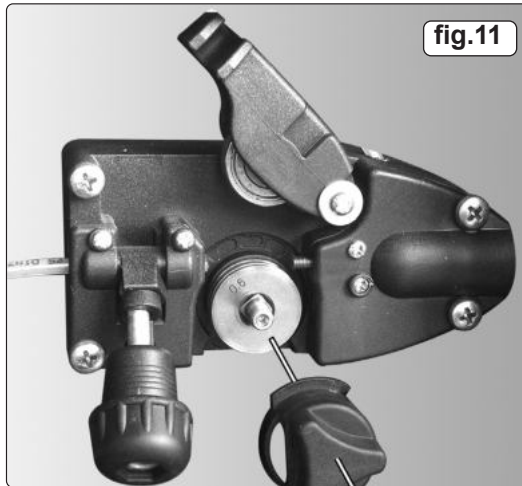

fig.11
- 6.5.1. There are two grooves on the feed roller, 0.6mm and 0.8mm. Always have the groove that is being used on the outside of the roller (nearest to you). To turn the feed roller first loosen the wire tension knob and move it into its down position (see fig.10-1) then move the tensioning roller assembly to its up position (see fig.10-2). Take hold of the triangular knob on the roller retainer and rotate it 90° anticlockwise to release it as shown in fig.10.3. Now pull the roller retainer off the drive spindle to reveal the roller as shown in fig.11.